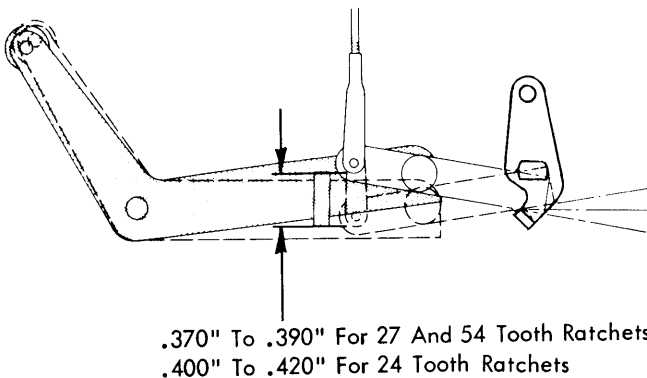

FIGURE 150. *Multiplying Lever Stop (New Style)*
2. Multiplying Lever Stop - (Fig. 150)